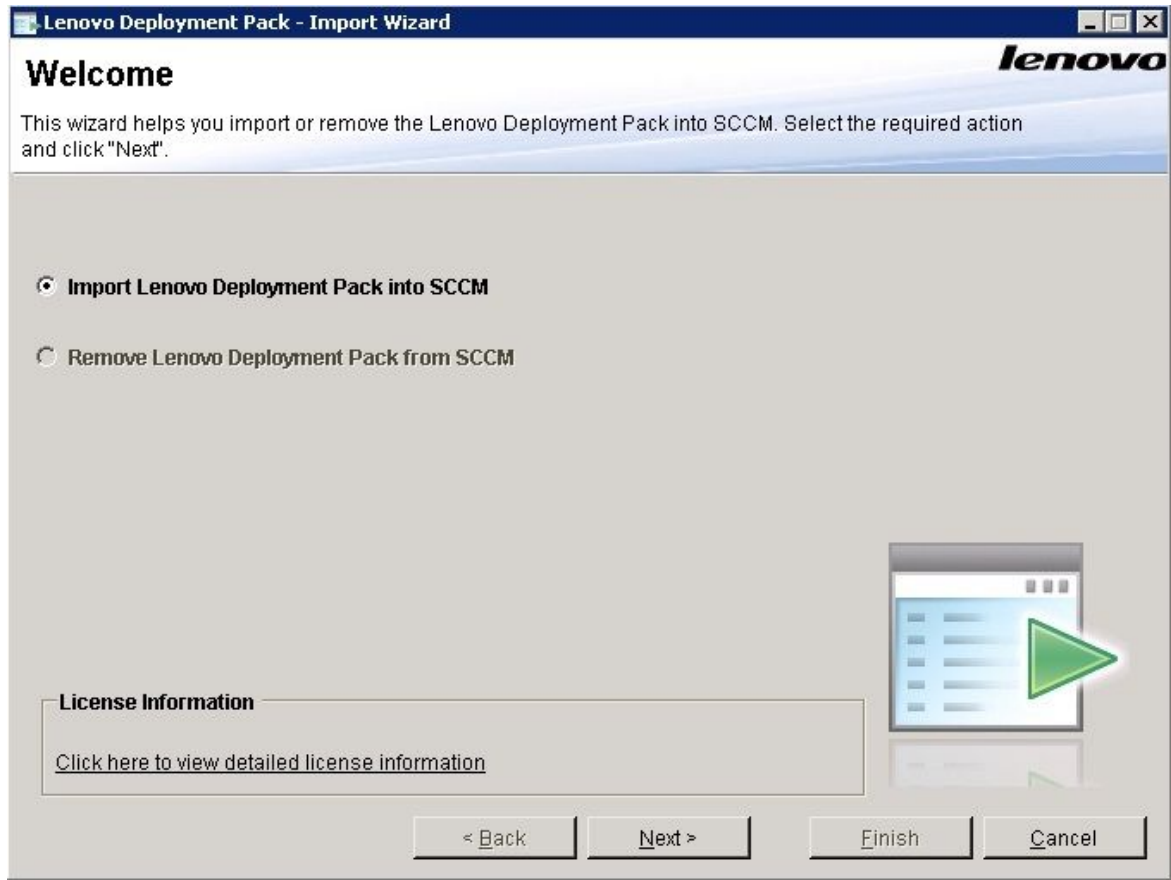

Figure 2. Lenovo Deployment Pack *Import Wizard* Welcome page
- If the product license is purchased and installed, or the product is in a trial stage, you can add new machine types by selecting **Add new machines** on the Target System page, as shown in Figure 2. Click **Next**. The Additional SEP Packages page is displayed.